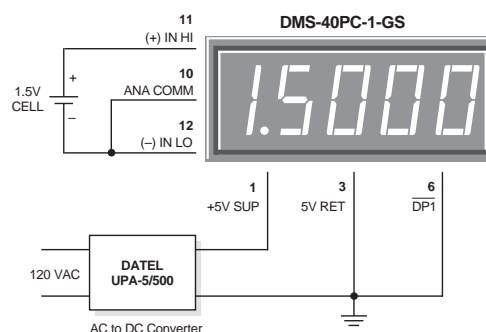

Figure 5. Floating Input Measurements
- 4. Floating Signal Source Measurements:** A floating input is a signal that, before it is applied to the DMS-40PC's inputs, has no galvanic connection (direct current path) to the meter or the meter's power supply. The circuit shown in Figure 5 illustrates the necessary connections for measuring floating inputs. The 1.5V battery represents a true floating input signal since it initially has no connection whatsoever in common with the meter. Real-world floating inputs typically originate from power supplies which are transformer isolated from the DMS-40PC's +5V supply.
As the timing diagram in Figure 5 indicates, 100Hz is the optimum display scan rate when the BCD outputs are used to drive external LED displays. Faster scan rates, while permissible, are not necessary. Slower scanning, however, may result in noticeable "flickering" of the display. Common anode LED's, combined with a 74LS247 BCD to seven-segment decoder, is the